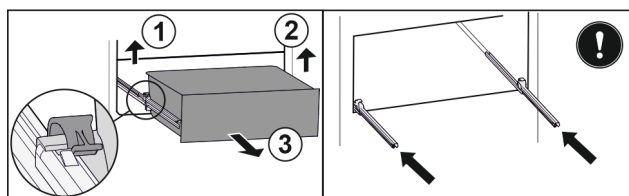

Fig. 112
- ▶ Lift left clamp and simultaneously pull drawer forwards on the left. Fig. 112 (1)
- ▶ Lift right clamp and simultaneously pull drawer forwards on the right. Fig. 112 (2)
- ▶ Remove drawer to the front. Fig. 112 (3)